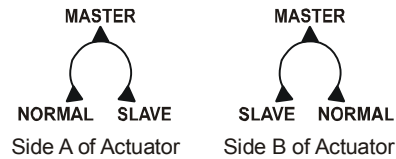

Figure 18: Tandem Selector Switch
- Only one of the actuators can be configured as the master. Set the selector switch to the master position (Figure 18).
Each slave actuator must have its tandem selector switch (Figure 18) set on the slave setting. Its gray command wire must be connected the master's orange feedback wire.